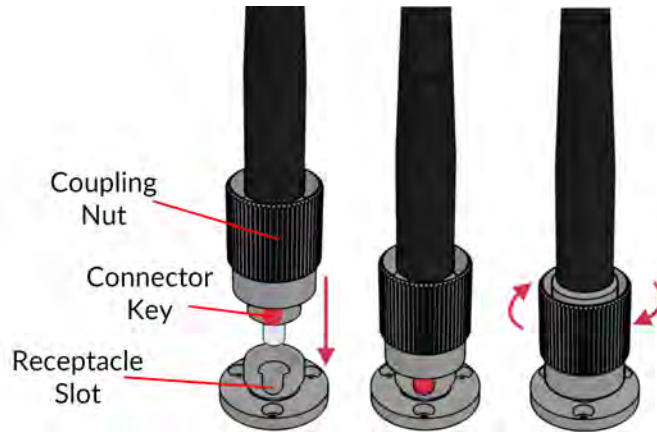

Figure 3.4: FC connector, Fiber Installation
- With an FC connector, the **connector key must be oriented to enter within the receptacle slot** to ensure proper connection (Fig. 3.4).